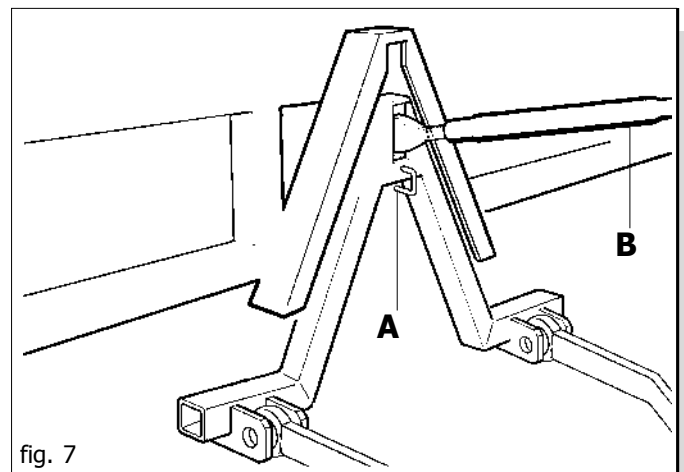

fig. 7
- 3) Bring the tractor to the equipment; using the lift, move the quick connect triangle until it is vertically above the coupling triangle of the equipment (Fig. 7).
- 5) Raise the hooking triangle until the two parts are perfectly joined along the guides of the triangle frame, with the insertion of the sprung joint-pin. (A Fig. 7).
- 7) Lower the lift and place the combined equipment in an operating position. Check that all the sowing parts oscillate freely, including the drive wheels and the seed-covering harrow. 5) Check that the equipment is in the correct position, perpendicular to the ground, adjusting the third point of the equipment, if required (B fig. 7).